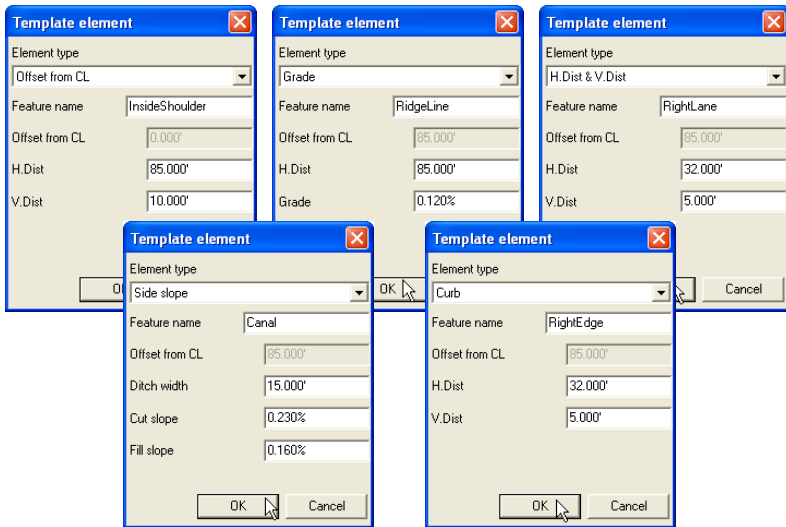

Figure 6-29. Template Element Dialog Boxes
3. On the *Template element* dialog box, select the type of element and enter the required information. The fields differ depending on the element selected (Figure 6-29 on page 6-27).